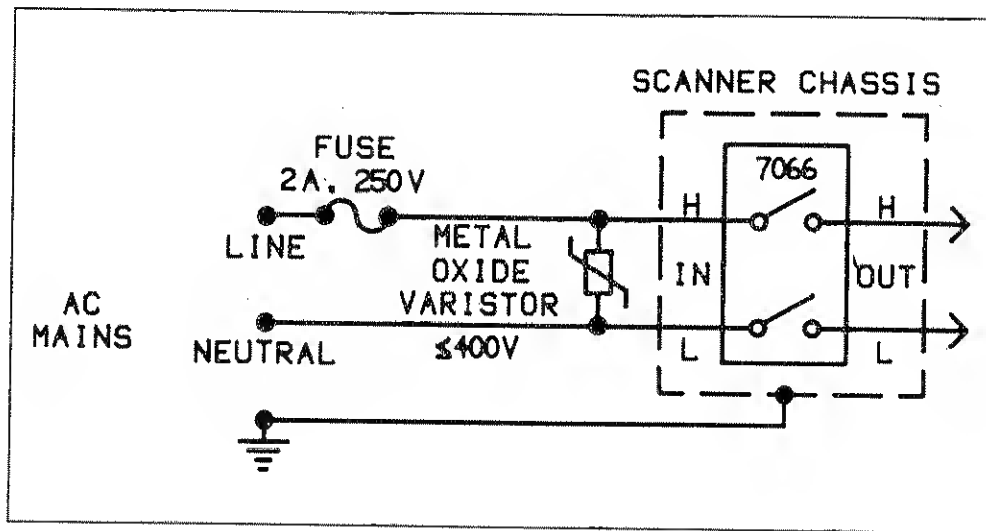

Figure 2-10. Clamping AC Mains Transients
- C. Line filtering must be used to limit voltage transients and RF noise. A clamping circuit to protect the card from AC mains transients is shown in Figure 2-10.